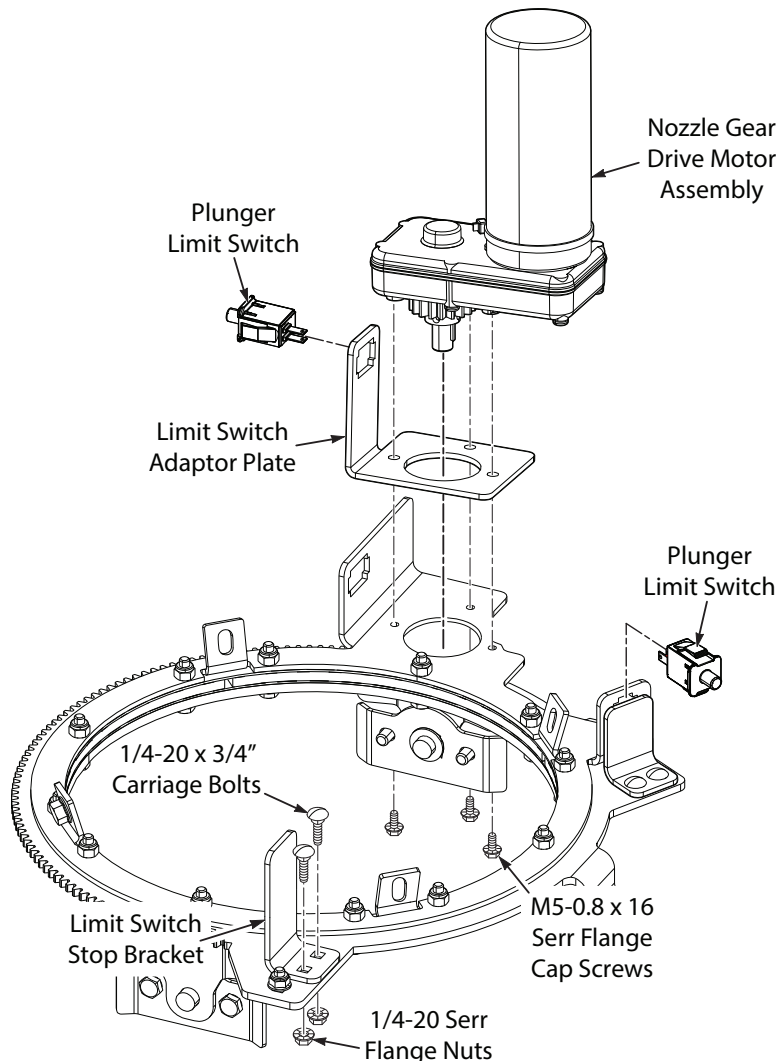

Figure 2. Install Nozzle Gear Drive Motor & Associated Components
- Using the three (3) M5-0.8 x 16 serrated flange cap screws removed in the previous step, install the new nozzle gear drive motor and limit switch adaptor plate to the pivot gear top plate. See Figure 2.
- Install one of the plunger limit switches supplied with this kit to the limit switch adaptor plate as shown. Install the remaining plunger limit switch provided to the pivot gear top plate. See Figure 2.
- Using the two (2) 1/4-20 x 3/4" carriage bolts and two (2) 1/4-20 serrated flange nuts removed in step 7, assemble and secure the limit switch stop bracket supplied with this kit to the nozzle pivot gear. See Figure 2.